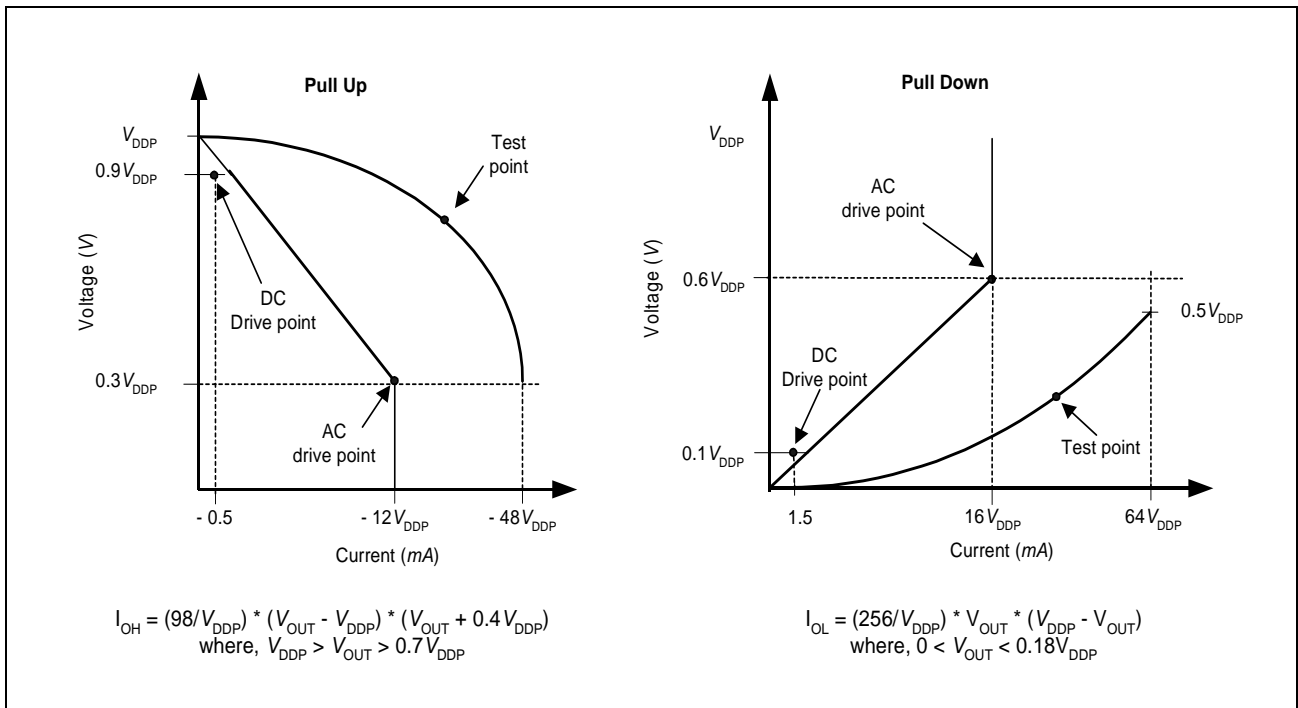

Figure 39 V/I Curves for 3.3V Signaling
1) Refer to the V/I curves in Figure 39. Switching current characteristics for **REQ** and **GNT** are permitted to be one half of that specified here; i.e., half size output drivers may be used on these signals. This specification does not apply to **CLK** and **RST** which are system outputs. "Switching Current High" specifications are not relevant to **SERR**, **PME**, **INTA**, **INTB** which are open drain outputs.